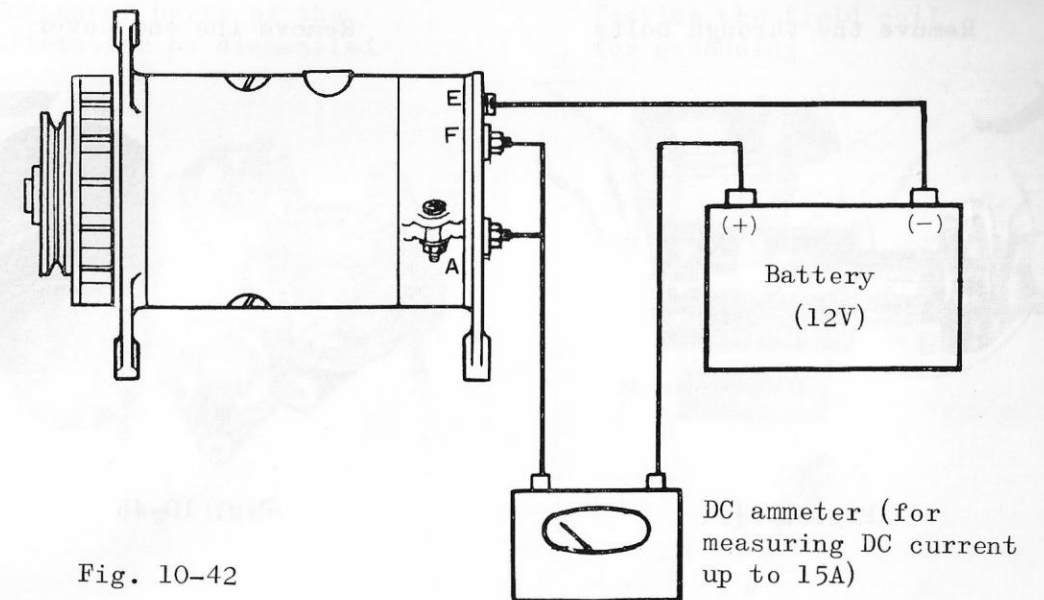

Fig. 10-42
- (1) With use of fully charged 12V battery, short-circuit the terminals F and A and then, connect the ammeter between the terminal A and the battery. The alternator and its associated parts may be regarded as normal if the alternator operates smoothly without abnormal operating noise and measurements indicate between 4A - 6A when the alternator is rotated at speeds within 750 rpm to 950 rpm. (See Fig. 10-42)